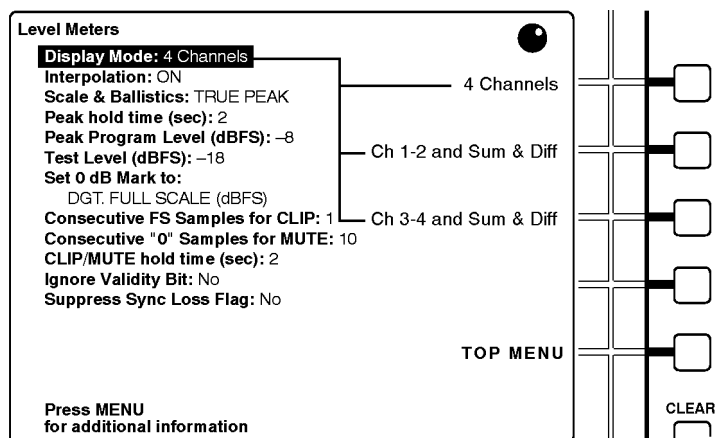

Figure 2-18: The level meters submenu
4. Press any soft button to enter the level meters submenu. The display resembles Figure 2-18.